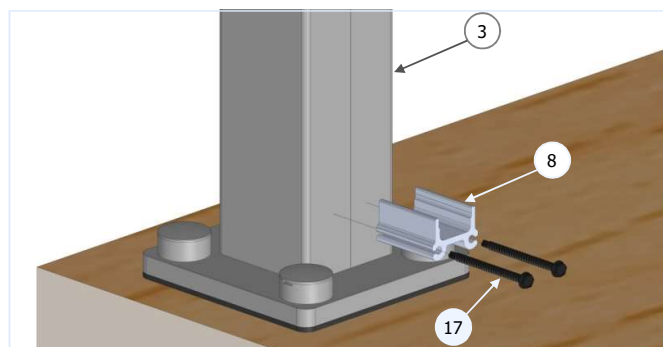

Fig 14B
- Using a 1/8" drill bit (7), pre-drilled pilot holes in the post (3) for the top and bottom RCBs (8) as indicated by the markings made in the previous step. Use touch-up paint to coat exposed aluminum inside the drilled holes and protect from corrosion.
- Mount the bottom rail RCB (8) to the post as shown in Figure 14B and fasten using #8 x 2" Hex Washer Tek Screw (17). Do not overtighten.